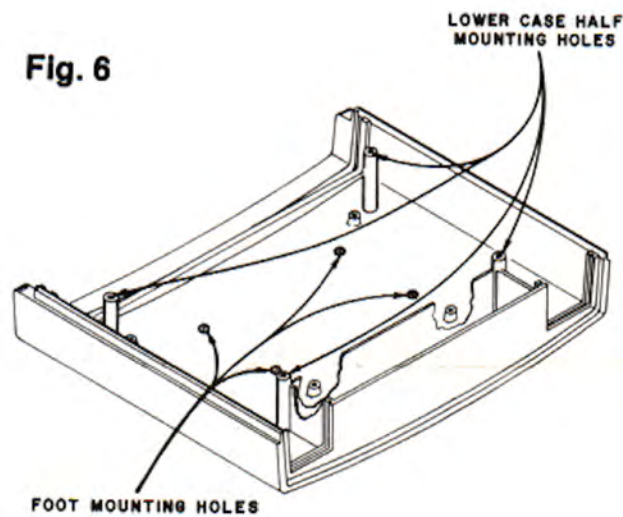

Fig. 6
- [X] Locate the bottom case half. The bottom case half may be identified by the four holes that have been drilled through its surface. (The top case half has no holes). SEE FIGS. 6 & 8.
- [X] Lay the bottom case half on a flat surface and drill four (4) holes at the indent locations, using a 5/32" drill bit. These holes are for mounting the case feet. (FIG.6).